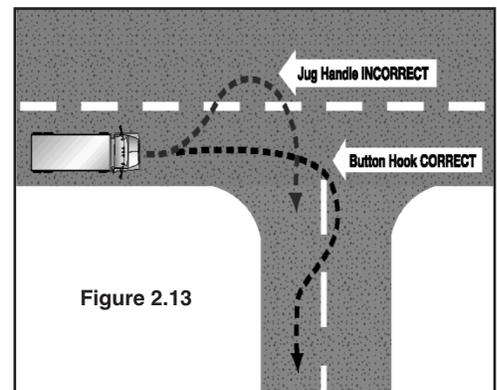

Figure 2.13
- If you must cross into the oncoming lane to make a turn, watch out for vehicles coming toward you. Give them room to go by or to stop. However, do not back up for them because you might hit someone behind you. (See Figure 2.13.)